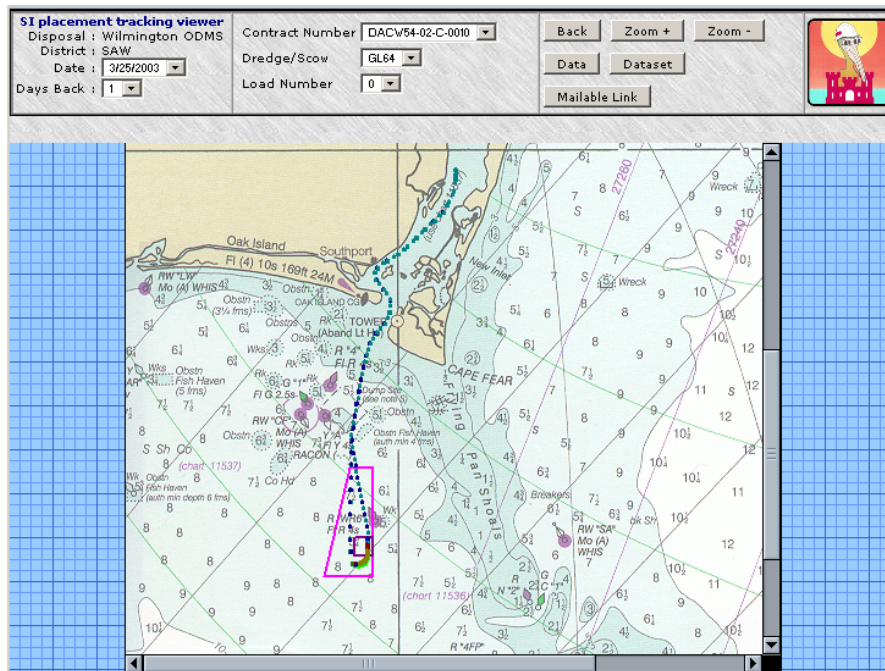

Figure 4.4 Track Plot
4. In the tracking viewer screen, select the contract number, dredge, and load number from the pull-down menu located in the upper center screen. Click **submit** located in the upper right-hand corner of the tracking viewer. The track-plot will then appear as in Figure 4.4.